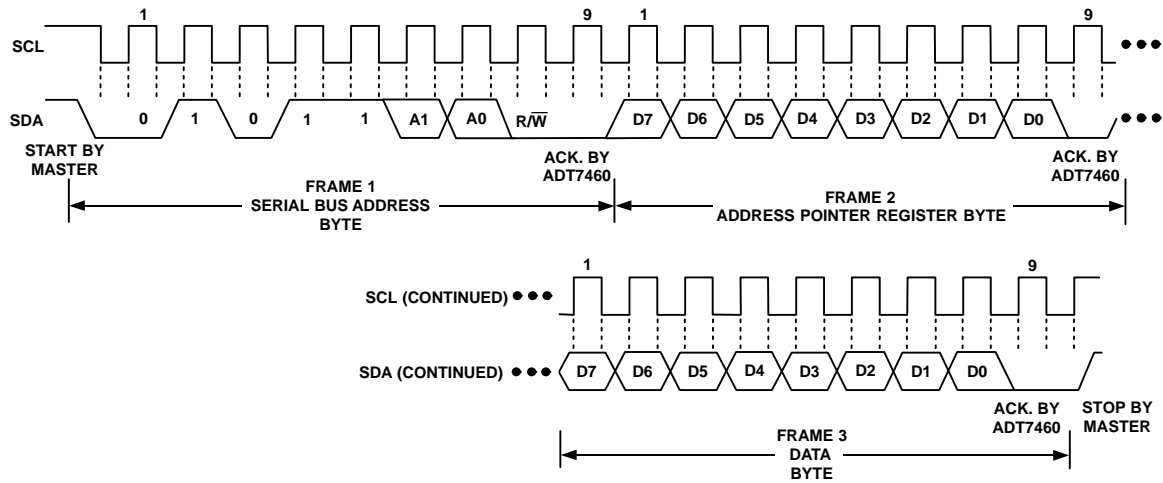
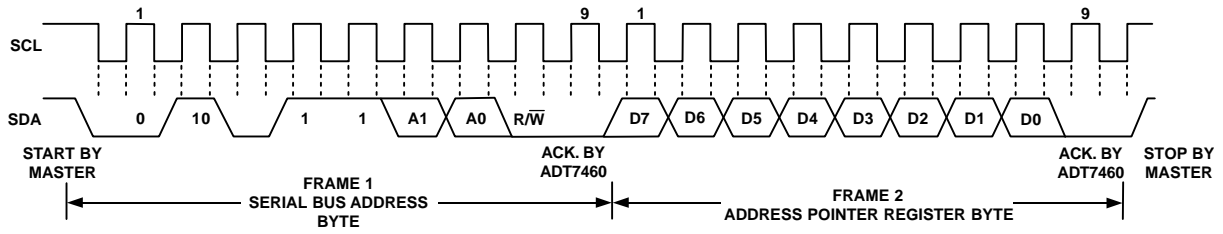
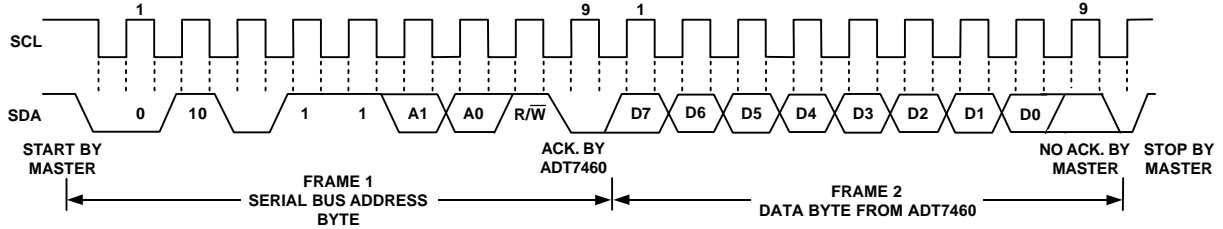

Figure 17. Writing a Register Address to the Address Pointer Register, then Writing Data to the Selected Register
Figure 18. Writing to the Address Pointer Register Only
Figure 19. Reading Data from a Previously Selected Register
This is illustrated in Figure 17. The device address is sent over the bus followed by R/W being set to 0. This is followed by two data bytes. The first data byte is the address of the internal data register to be written to, which is stored in the address pointer register. The second data byte is the data to be written to the internal data register.
- ◆ If the ADT7460's address pointer register value is unknown or not the desired value, it is first necessary to set it to the correct value before data can be read from the desired data register. This is done by performing a write to the ADT7460 as before, but only the data byte containing the register address is sent because data is not to be written to the register. This is shown in Figure 18. A read operation is then performed, consisting of the serial bus address, R/W bit set to 1, followed by the data byte read from the data register. This is shown in Figure 19.
- ◆ If the address pointer register is known to be already at the desired address, data can be read from the corresponding data register without first writing to the address pointer register, so Figure 18 can be omitted.
In Figure 17 and Figure 19, the serial bus address is shown as the default value 01011(A1)(A0), where A1 and A0 are set by the address select mode function previously defined.